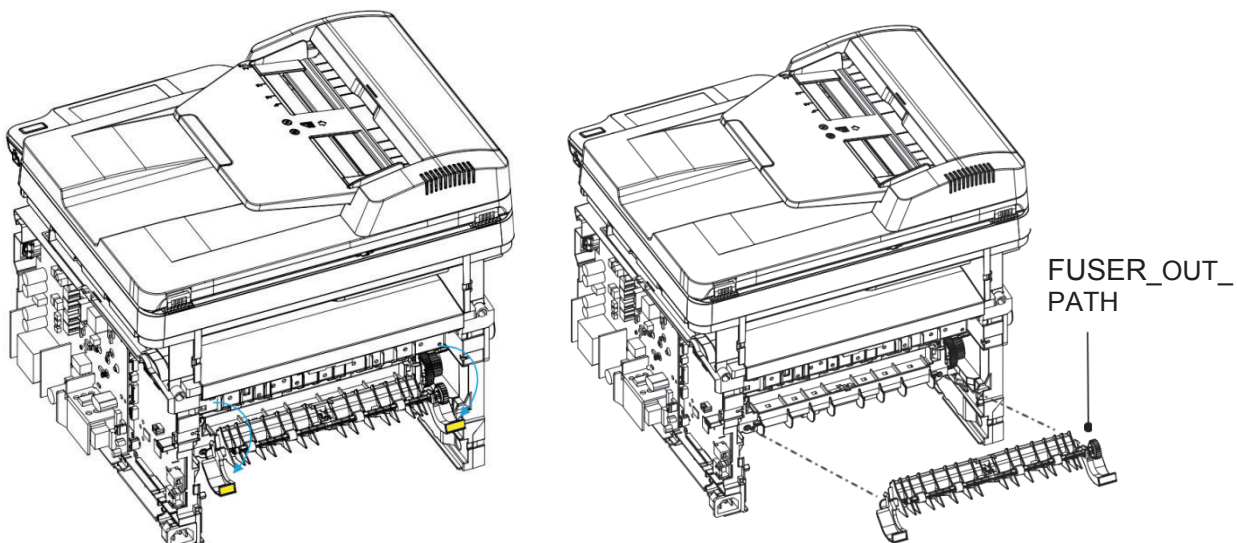

Fig. 1
- (1). Remove Front Cover 、 Main Paper Tray 、 Drum Unit 、 Left Cover 、 Assembling Housing Right.
- (2).(Fig. 1) Pull down the ASSY_REAR_PATH to remove it.
- (1). Remove Front Cover 、 Main Paper Tray 、 Drum Unit 、 Left Cover 、 Assembling Housing Right 、 ASSY_REAR_PATH).
- (2).(Fig.1) Press down the FUSER_PATH to remove it.
- (2).Fig. 1: Remove two T3X8 screws, Fig. 2 Disconnect two FFC cables and two cables, Fig. 3: Push 4 slots to detach the ADF_FB Scanner.
- (3).Remove the ADF_FB Scanner.